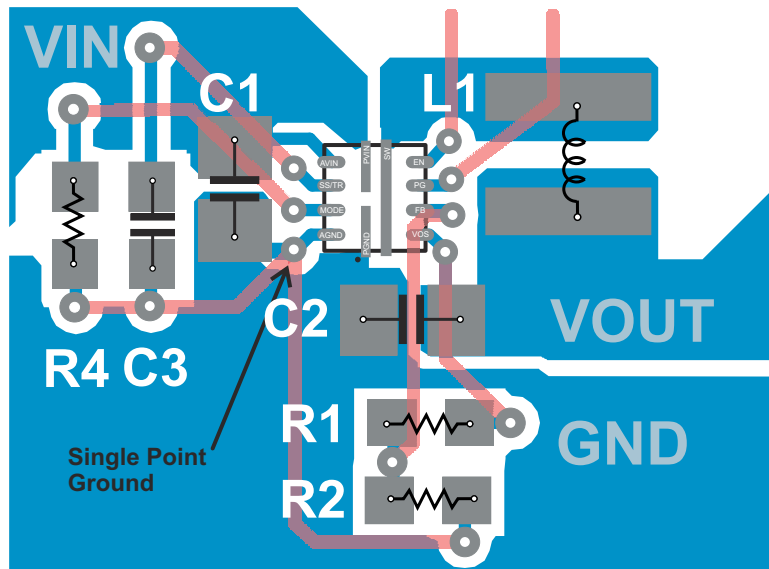

图 11-1. TPS62097 PCB Layout
- Refer to the 图 11-1 for an example of component placement, routing, and thermal design.